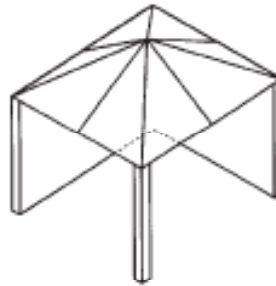

Figure 2 - Partial Enclosure with overhead cover and no more than two walls.
- Within a partial enclosure that includes an overhead cover and no more than two walls. See Figure 2 & 3.